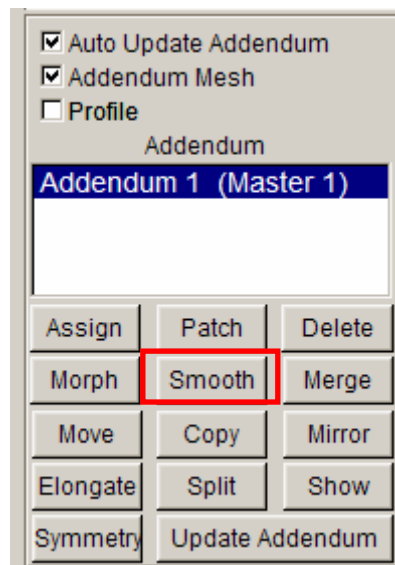

Figure 39 Addendum Operation
1. Click **Smooth** button in the **Addendum Generation** dialog box, as illustrated in Figure 39.